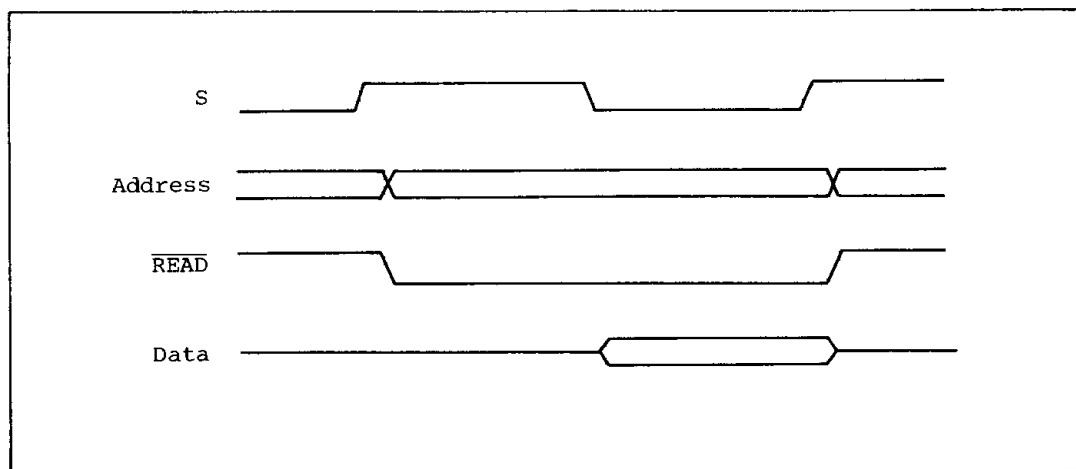

Figure 3-4 EEPROM Read Timing
The EEPROM can be directly read by the CPU in the same way as ROM and RAM only when $\overline{\text{BSY}}$ in the ECR is set to 1. If the EEPROM is read when $\overline{\text{BSY}}=0$, the MCU performs data polling to check whether the erase/write operation is completed or not. Refer to 3.1.4 (7) Data polling for further details. Figure 3-4 shows the EEPROM read timing.